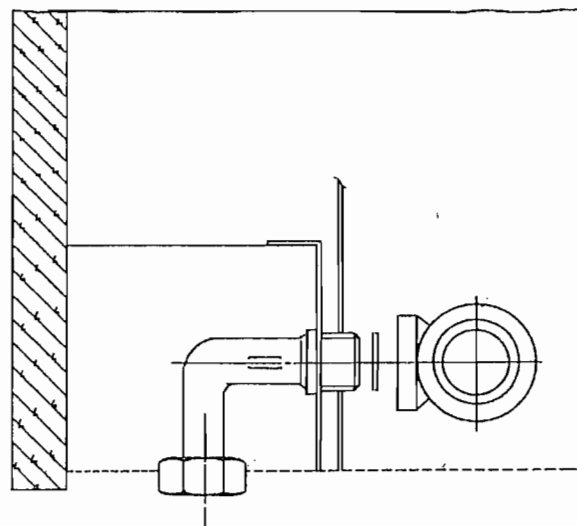

Fig. 17
- 5.6 Screw the pressure relief valve adaptor provided, through the jig bracket into the valve, using the remaining washer (fig. 17).